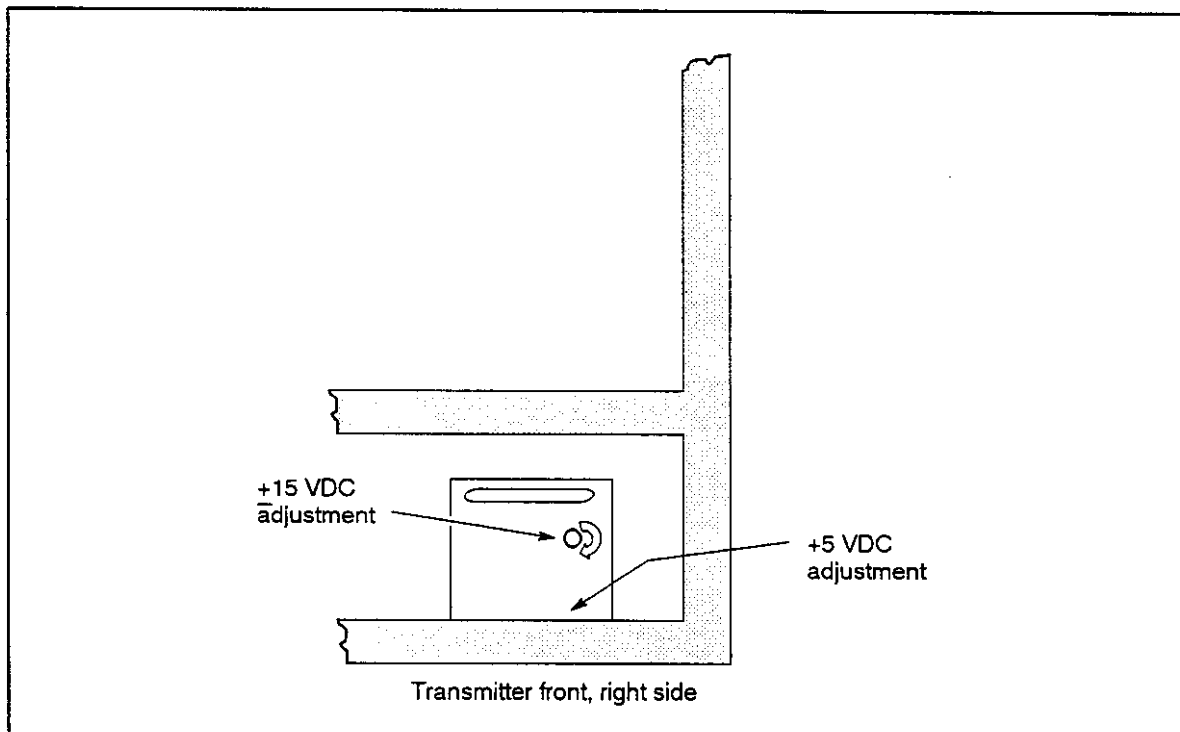

Figure 52. Transmitter +15 VDC Power Supply.
- c. If necessary to adjust the output level, use Figure 52 to locate the voltage adjustment points.